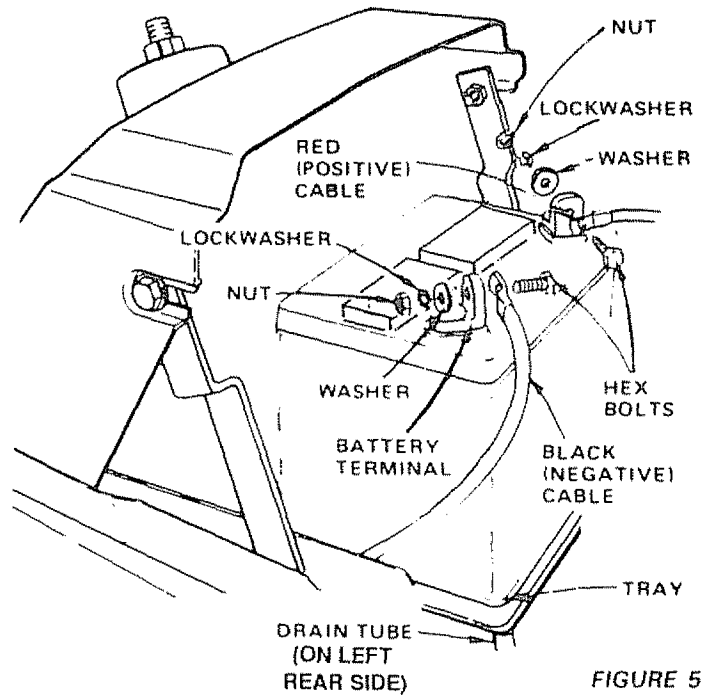

FIGURE 5
- b Make sure drain tube (Fig 5) is fastened to drain hole in battery tray and battery tray is positioned in hole of battery support.
- c Place battery in plastic tray (battery terminals to front of tractor) (Fig 5)
- e. Connect RED battery cable to positive (+) battery terminal with hex bolt, flat washer, lockwasher and hex nut (shown full size below) found in bag of parts (Fig. 5). Tighten securely.
- f. Connect BLACK ground cable to negative (-) battery terminal with remaining hex bolt, flat washer, lockwasher and hex nut (shown full size below) found in bag of parts (Fig. 5). Tighten securely.